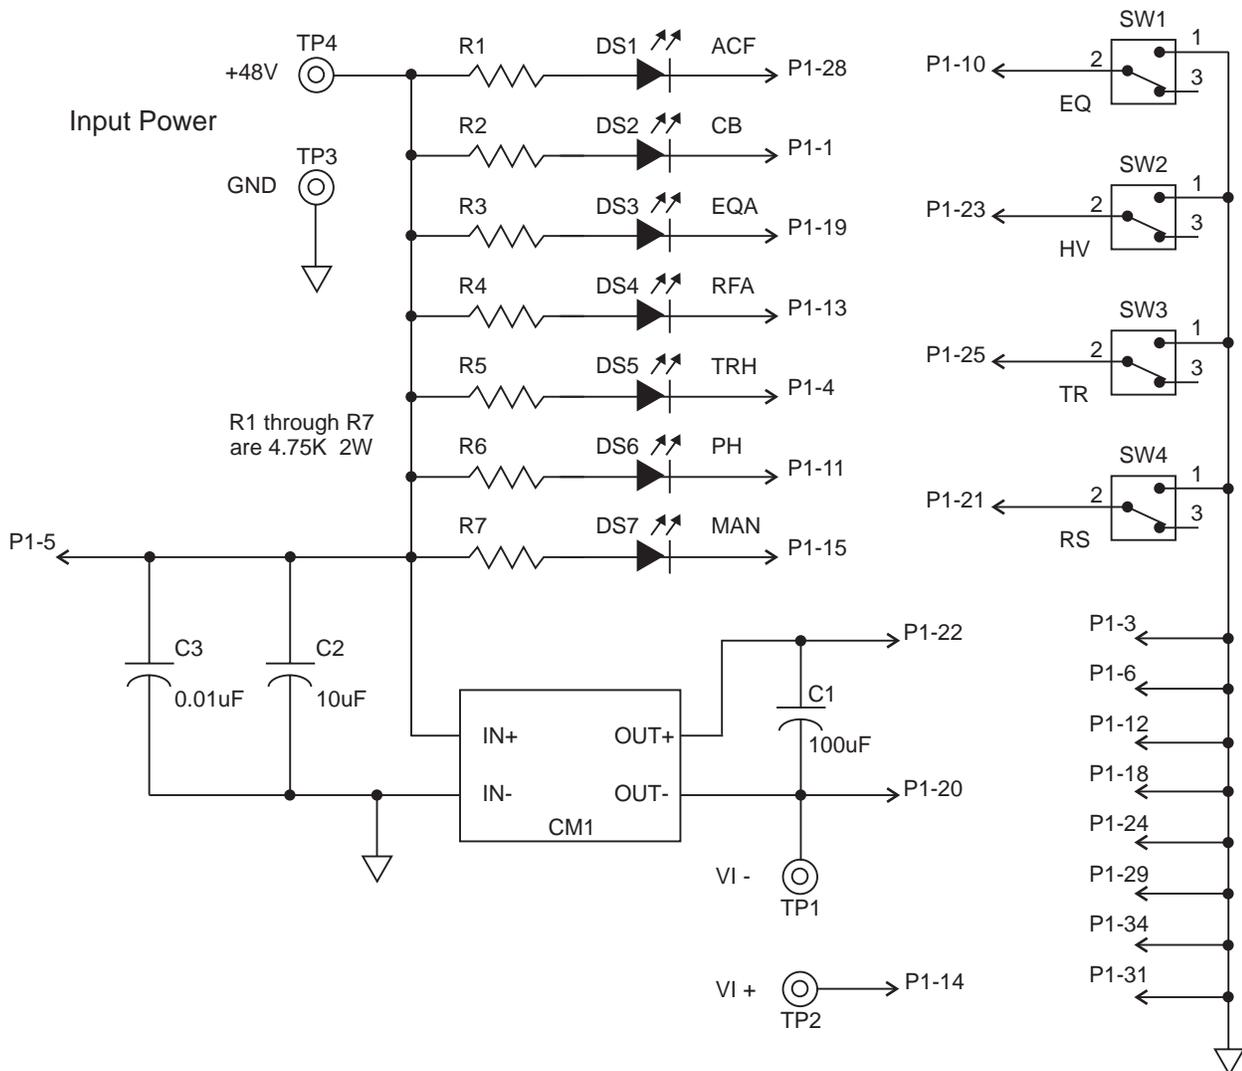
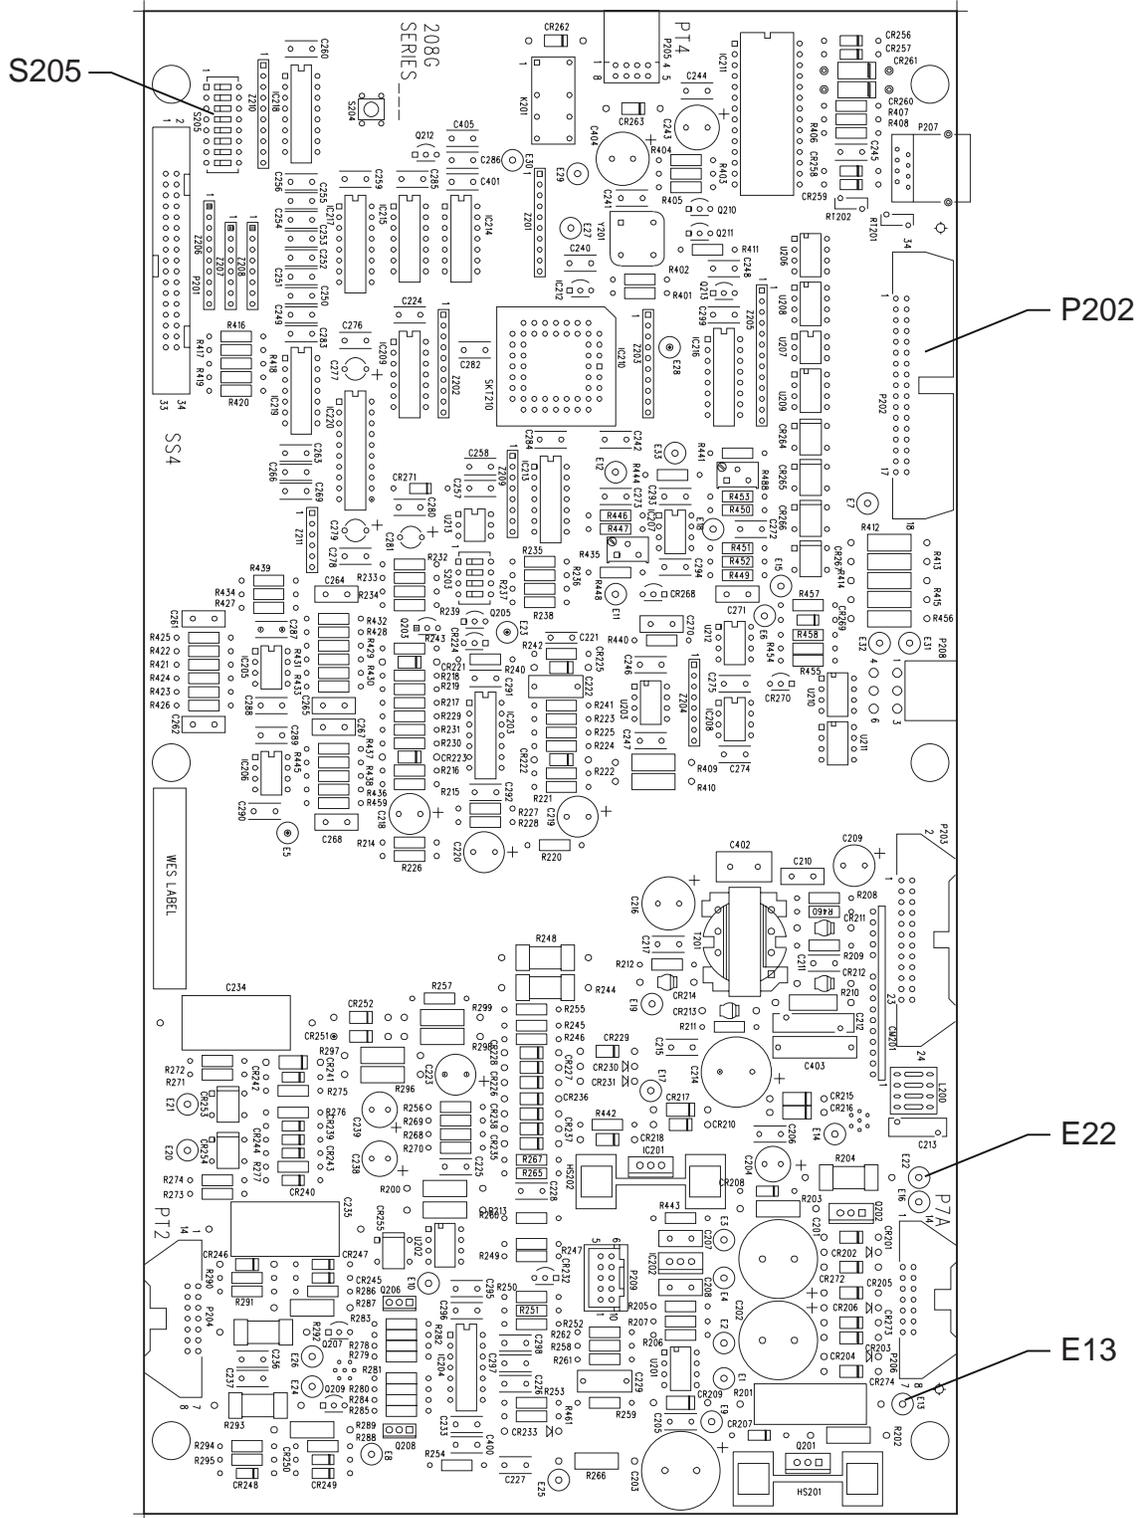

Figure 7-1: Battery Plant Simulator Test Set Schematic Used with CM2 Control Board
Figure 7-2: Partial Sketch of CM2 (208G) Control Board
- Battery Plant Simulator Test Set, customer constructed, or equivalent (see **Note** below and Figure 7-1)
Secure the Battery Plant Simulator Test Set (Figure 7-1), and support it at a convenient location near the rectifier. Make the connections as detailed in Table 7-A. Note that Table 7-A contains references to Figure 7-2.
1. Disable the internal selective high voltage shutdown by opening **S205.1** and **S205.2** on **CM2** (see Figure 7-2). Then adjust the **Output Volts Adjust** until the rectifier shuts down.